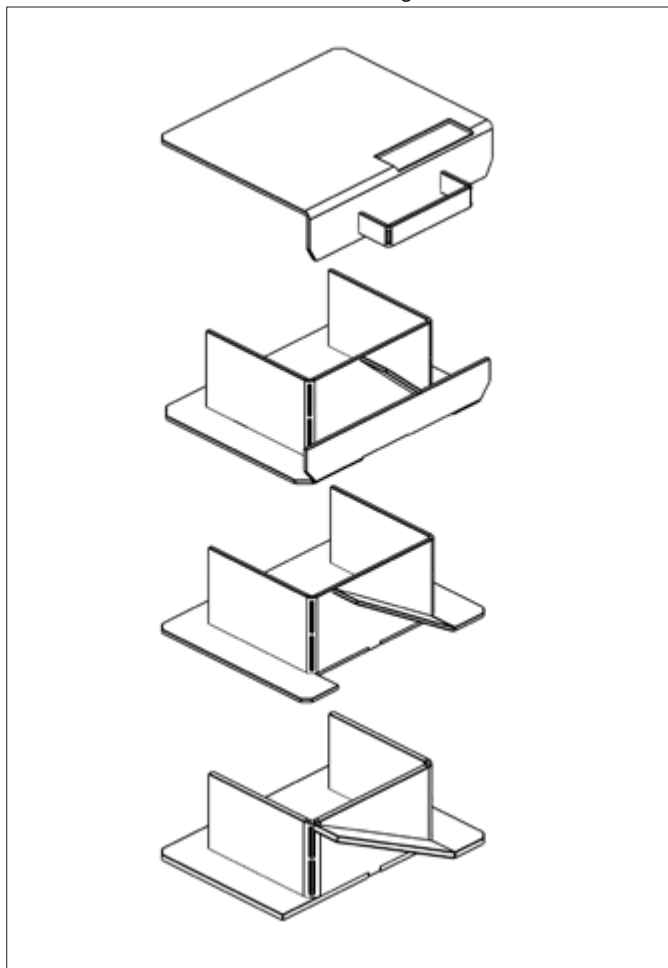

Figure 11-1: Removing the baffles
2. Remove the baffles as shown in Figure 11-1.
6. Replace the baffles, ensuring they are correctly fitted. Refer to Figure 11-1.